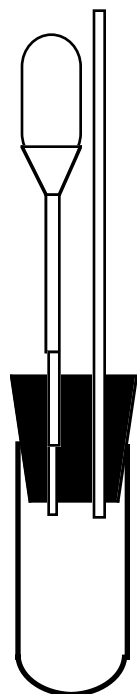
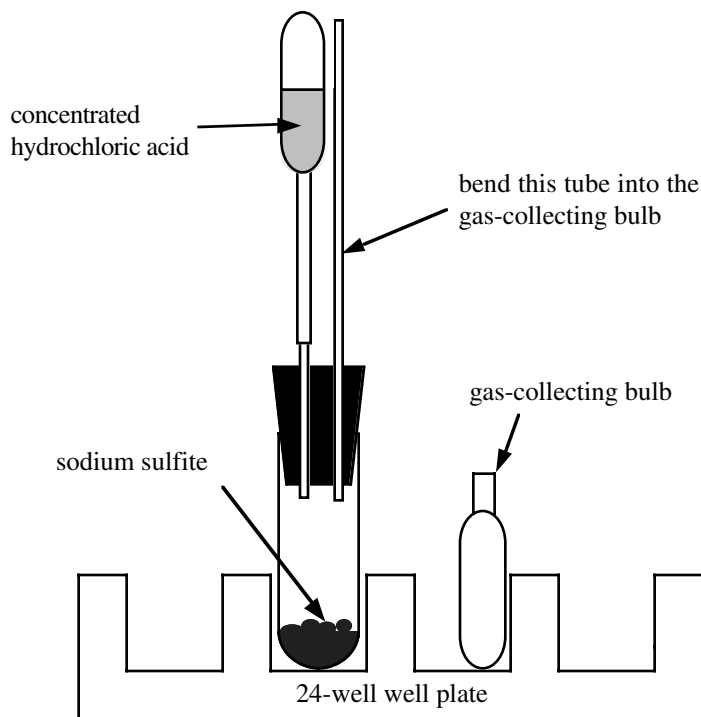

Figure 5 The reaction vessel
Figure 6 The complete reaction set-up for generating sulfur dioxide.
5. The stopper assembly should fit tightly into the bulb section of the transfer pipet prepared in step 1 (*see Figure 5*). The reaction vessel will just fit into a well in a 24-well wellplate (*Figure 6*).
3. Cut off the bulb of a graduated-stem pipet at the 1 mL mark. This will serve as the container to trap the sulfur dioxide. Place this bulb in a well next to the reaction vessel. The entire assembly should look like *Figure 6*.